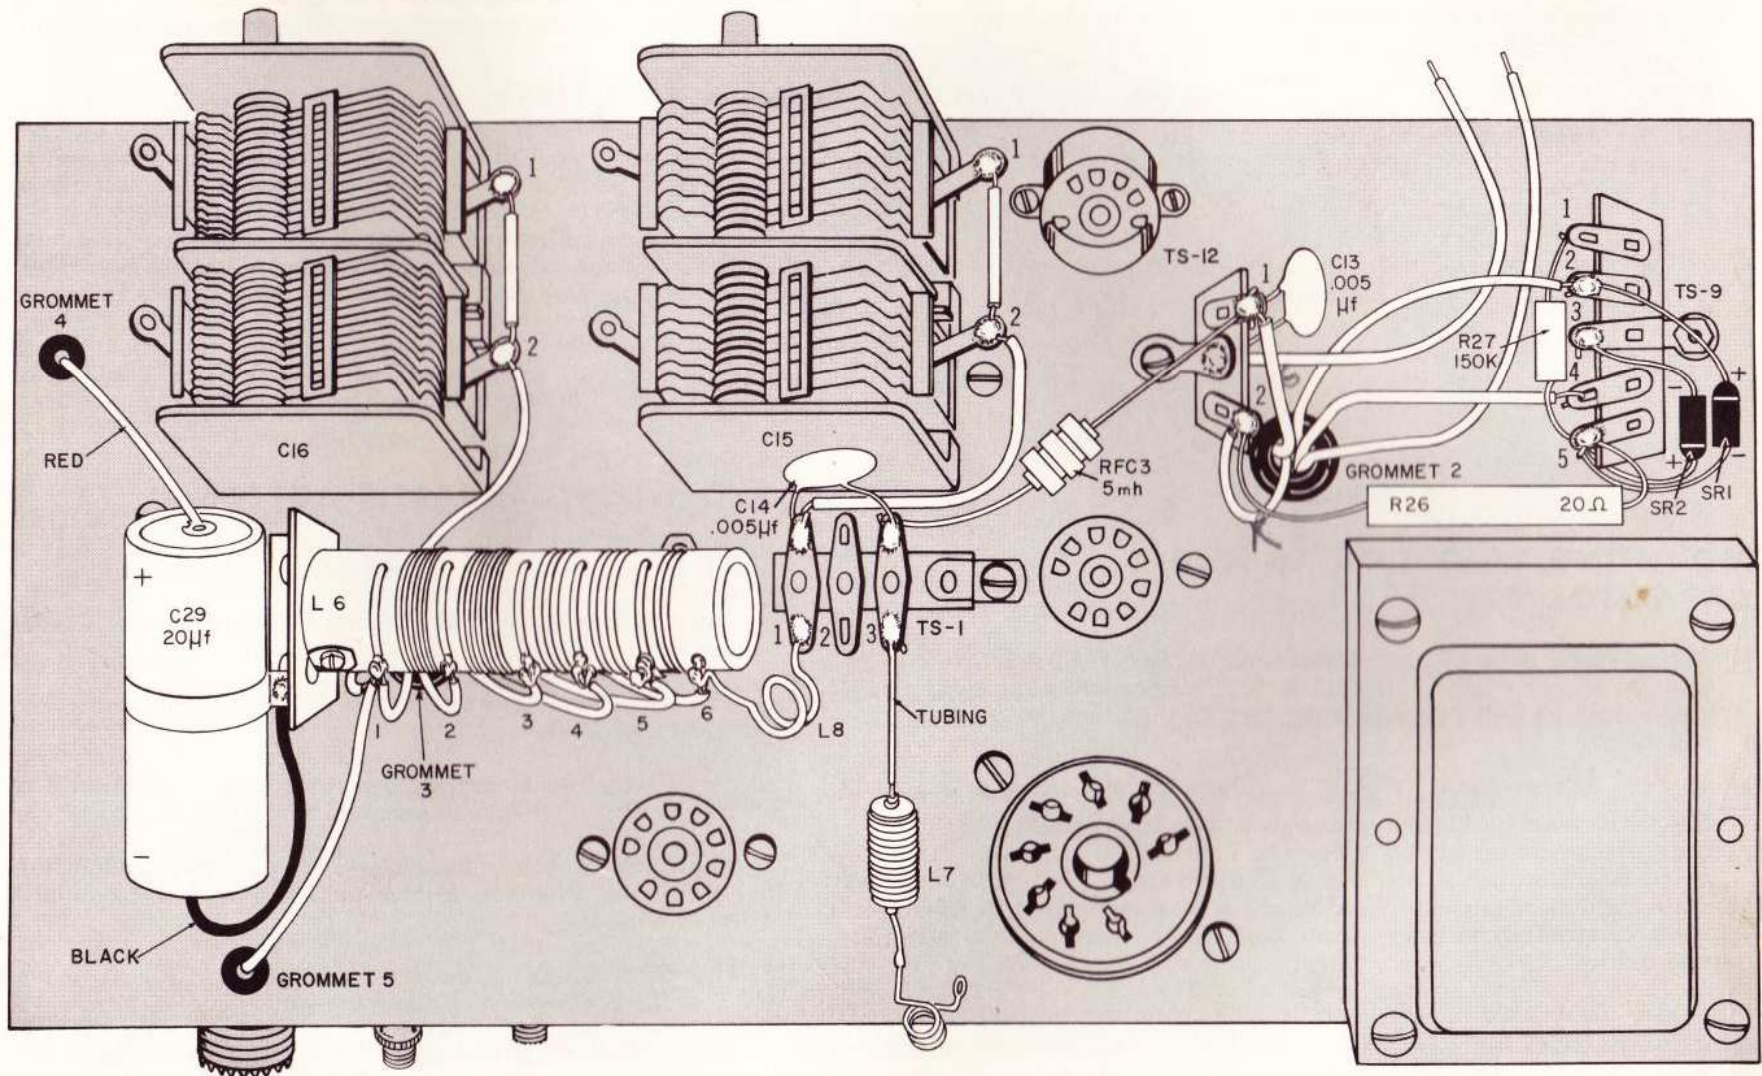

FIGURE 11
SEE FIGURE 11
- C13, .005 μ f, disc capacitor. Connect one lead to terminal 1 of TS-12. Insert other lead in center hole of TS-12 as shown in Figure 11.
- ☑ Solder black wire on capacitor to C29 mounting bracket. See Figures 11 and 13.
- ☑ SR2, silicon rectifier. Cut leads to $\frac{3}{4}$ ". Connect the positive (+) lead (banded end) to terminal 5 of TS-9. Observe polarity as shown in Figure 11. Solder the Negative (-) lead to terminal 3 of TS-9. Soldering silicon rectifiers calls for protection from heat. Hold the lead near the body of the rectifier with long-nose pliers while soldering. Hold lead till solder hardens and cools.